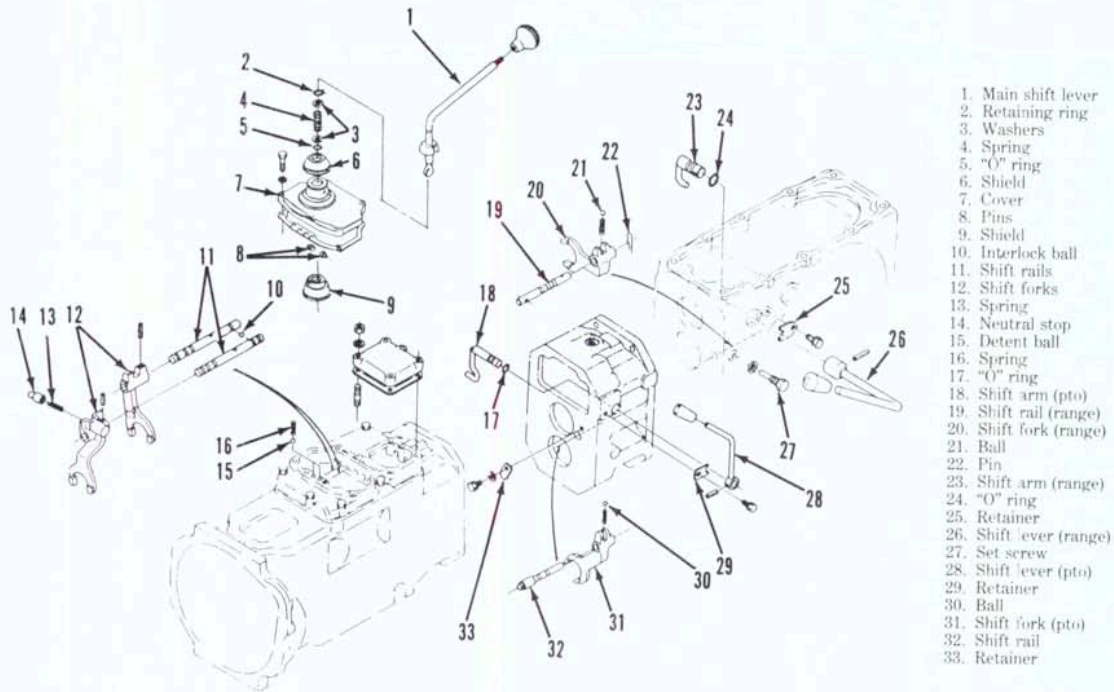

Fig. 109—Exploded view of shift rails, forks and associated parts used on Model L355.
**80. R&R AND OVERHAUL.** Shift rails, forks and associated parts are shown in Fig. 109. To remove main shift housing, shift transmission into neutral and unbolt and remove shift cover and housing. Remove shift lever knob and retaining ring (2), then withdraw shift lever (1) from bottom of cover (7). Remove detent springs and balls (15) and drive spring pins out of shift forks (12). Remove shift rails (11) rearward and withdraw forks.